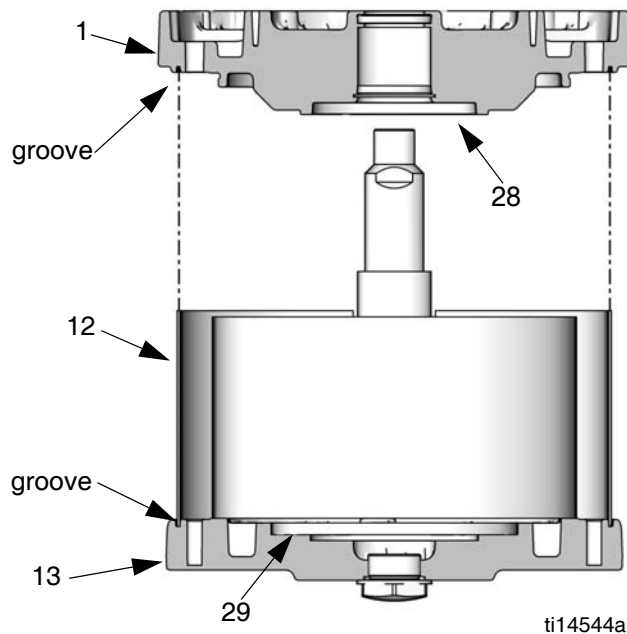

FIG. 13: Align shield in grooves on covers
8. Lubricate and install the o-ring (9*) on the bottom cover (1).
9. **M07xxx, M12xxx, and M18xxx only:** Install the piston bumper (28) on the bottom cover (1).
10. See FIG. 13. Carefully place the bottom cover (1) on the cylinder (11), sliding the rod through the bearing. The manifold surfaces of the top and bottom covers must align. Be sure the shield (12) is in the groove on both the top and bottom covers.